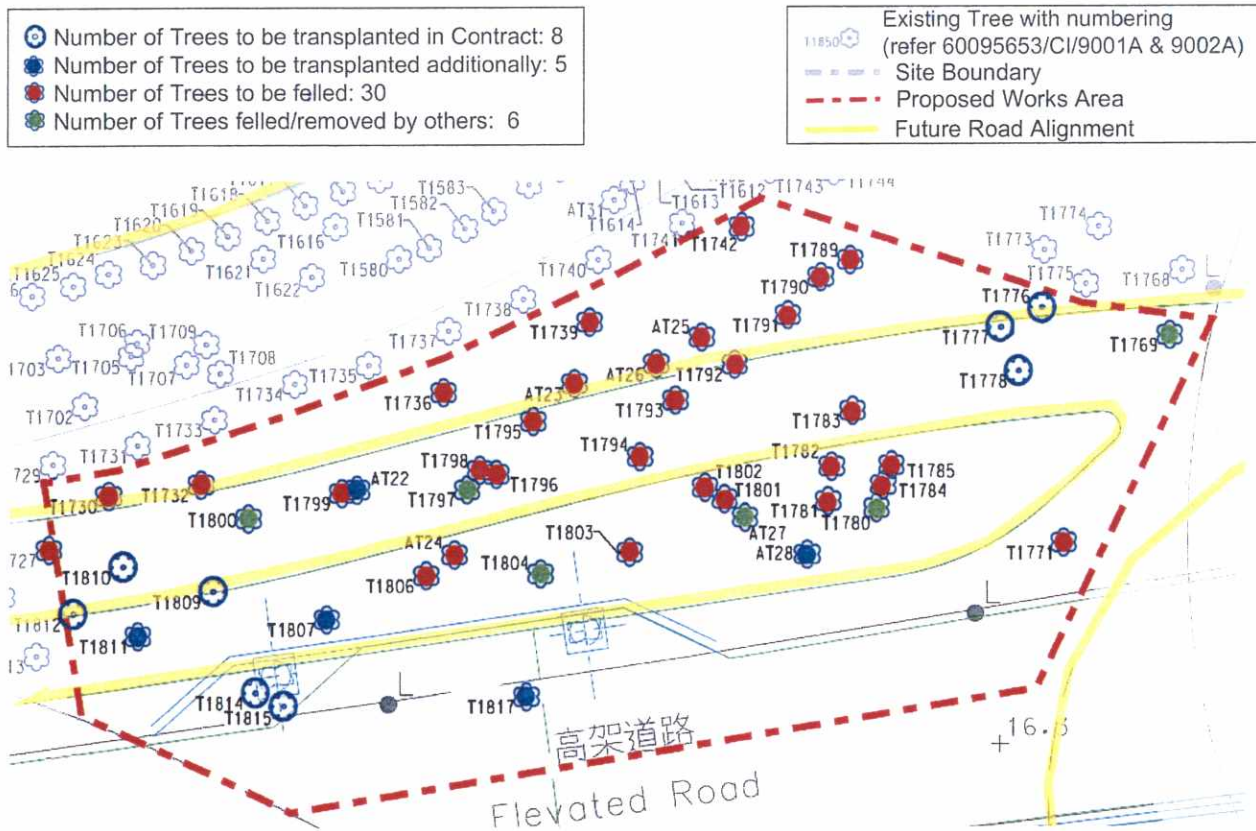

Figure 1 – Work area
2.1.1 Works area as shown in Figure 1.